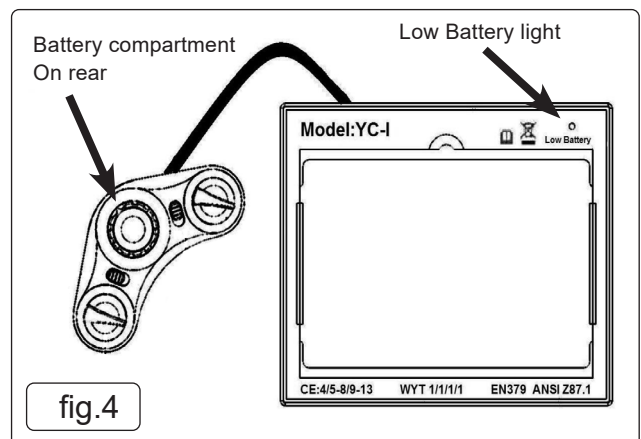

fig.4
### 7.2. HELMET AUTO-DARKENING FILTER CARTRIDGE (FIG.4)
7.2.2. When the Low Battery light (fig.4) is lit you will need to replace the cartridges' batteries. The batteries are housed in a covered compartment on the inside face of the control panel accessed from the inside of the helmet. Slide the battery compartment cover off and replace the batteries.